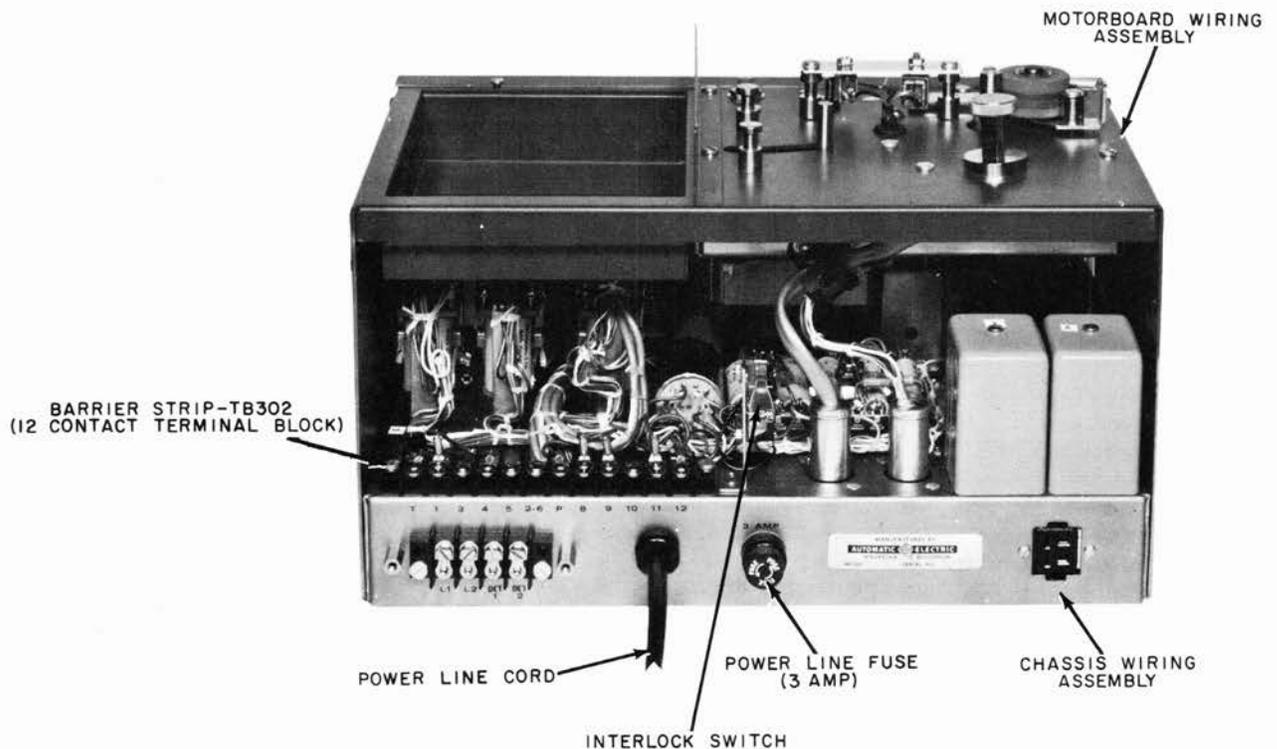

Figure 5. ELECTRONIC SENTRY Model 2 Warning Unit (Rear View, Cabinet Removed).
- (1) Remove two screws from the side panels of the cabinet and four screws from the bottom surface of the cabinet. Slide the mechanism forward to remove it from the cabinet.
- (2) For a call every cycle, strap terminals T and 1, 1 and 3, 3 and 4, 4 and 5, and 5 and 2-6 of barrier strip TB302 (see Figure 5).
- (3) For a call every second cycle, strap terminals T and 1, 1 and 3, 3 and 5, P and 8, 8 and 10, and 10 and 12.
- (4) For a call every sixth cycle, strap terminals T and 1, P and 8, 8 and 9, 9 and 10, 10 and 11, and 11 and 12.
- (5) Return the mechanism to the cabinet.